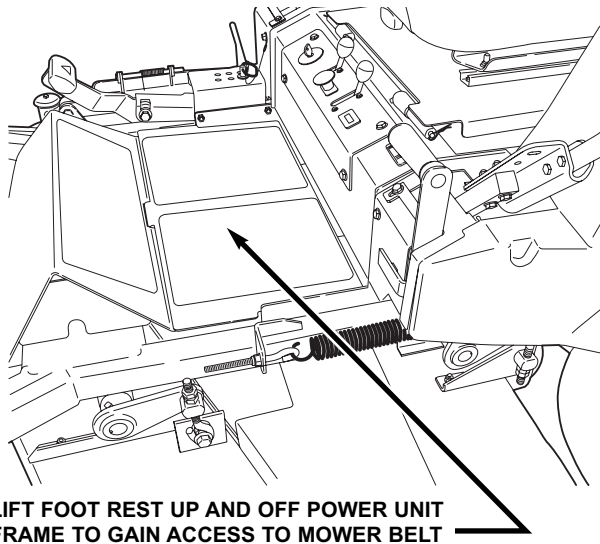

FIGURE 4.3
2. Remove footrest. See Figure 4.3.